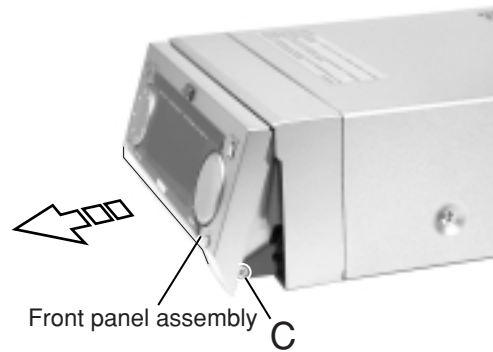

Fig. 2
(See Fig.2 to 5)
1. Pull out the lower part of the front panel assembly manually as shown in Fig.2 and 3.